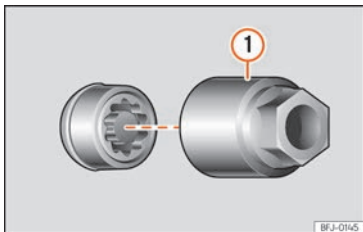

Fig. 188 Anti-theft wheel bolt with cap and adapter.
- Insert the special adapter »» Fig. 188 ① (vehicle tools »» page 243) onto the anti-theft wheel bolt and push it on as far as it will go.